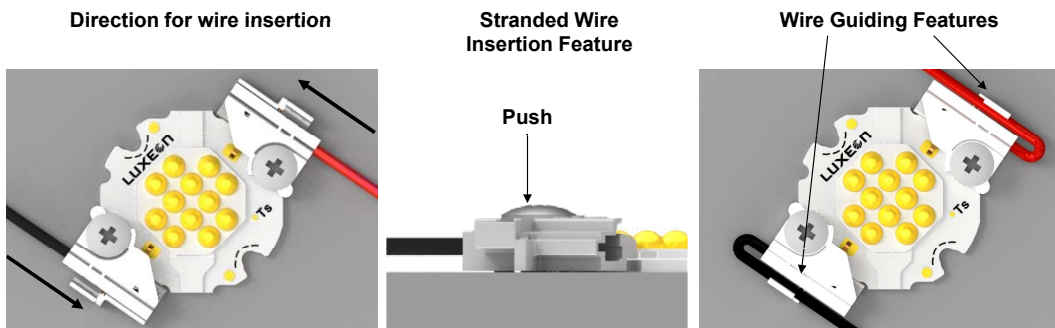

**Figure 6. Align the LUXEON K emitter with respect to the tapped screw holes on the heat sink.**
2. Align the semi-circular cutouts in the LUXEON K board, which are closest to the electrical pads, with the pre-drilled screw holes in the heat sink (see Figure 6).